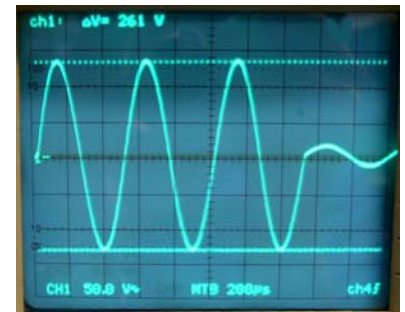

Figure 2.3. Burst sine wave signal for 2Ω power testing
- Measuring 2-ohm power requires a burst sine wave signal (Figure 2.3). This is to avoid excessive power supply current demand under testing, which would trigger the protection circuit and quickly reduce the output power to a safe level (approx-
- Adjust the gain control to obtain 4000 watts of burst output power (at least 252 V p-p, undistorted, during the bursts), as shown in Figure 2.3.